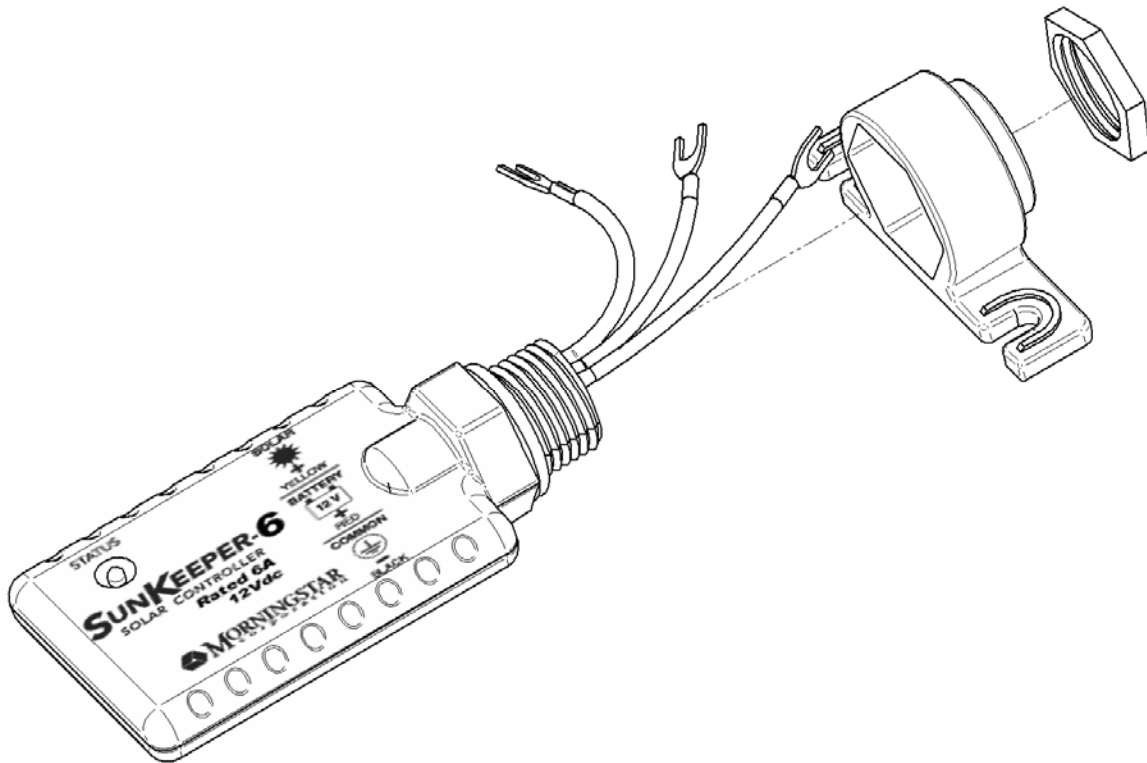

Figure 3. Mounting Feet Assembly
2. Assemble the SunKeeper, mounting feet, and locknut as shown in Figure 3.
4. With a drill and 1/8" (3 mm) bit, drill pilot holes for both mounting screws where marked in step three (3).
5. Place the SunKeeper onto the surface and align the two (2) mounting feet slots with the pilot holes. Use #10 (M5) pan-head screws (not supplied) to secure the SunKeeper to the surface.